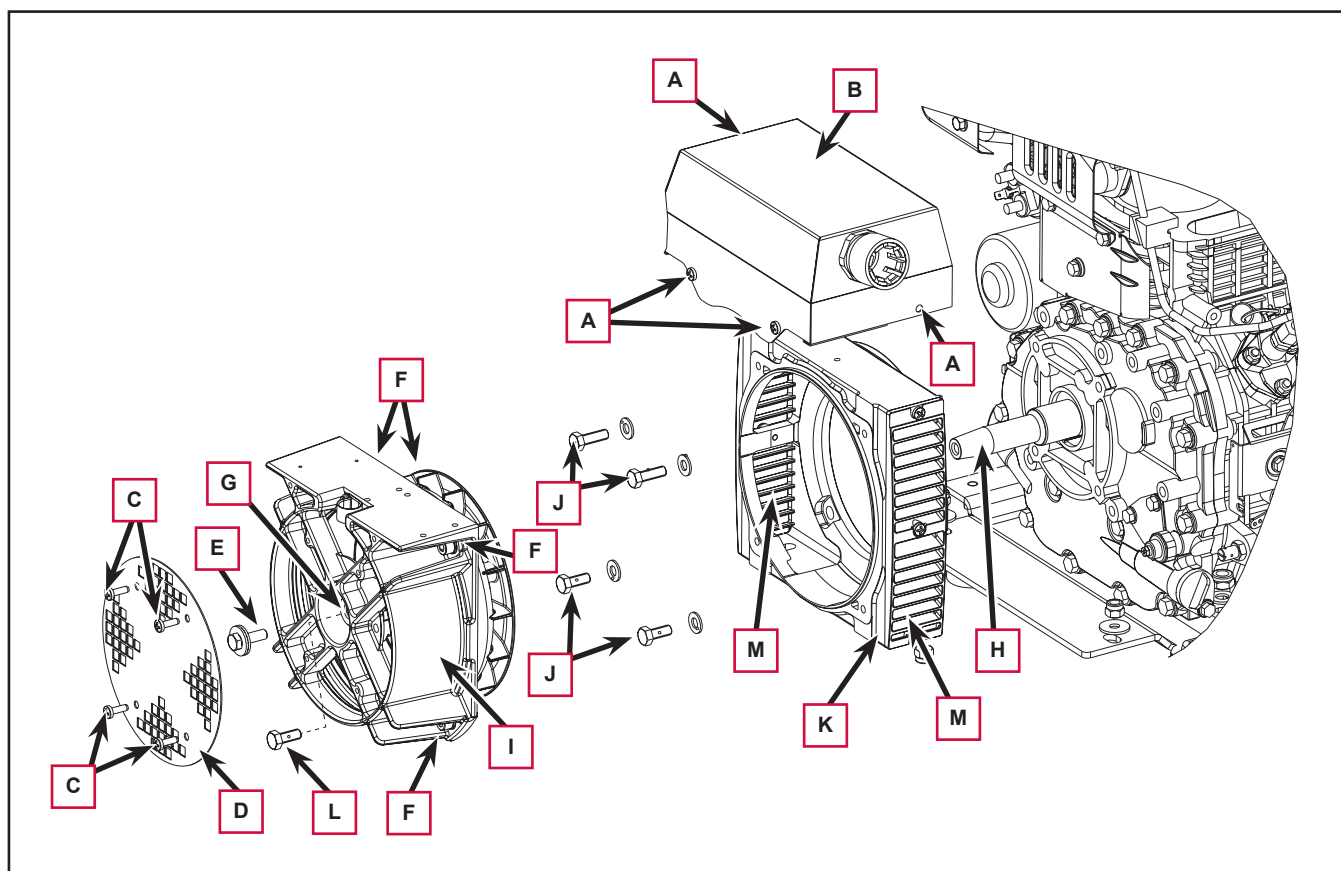

Figure 13
2. Working at the workbench, unscrew the perimeter screws (A, Figure 13) and remove the cover (B).
3. Unscrew the screws (C) and remove the grid (D).
4. Unscrew the screw (E).
5. Unscrew the four screws (F).
6. Screw in an M12 screw (L), approximately 40 mm in length, into the hole (G), bringing it into contact with the crankshaft (H) and use it as an extractor, screwing it in far enough to remove the alternator (I) from the engine.
7. If necessary, unscrew the four screws (J) and remove the coupling flange (I).